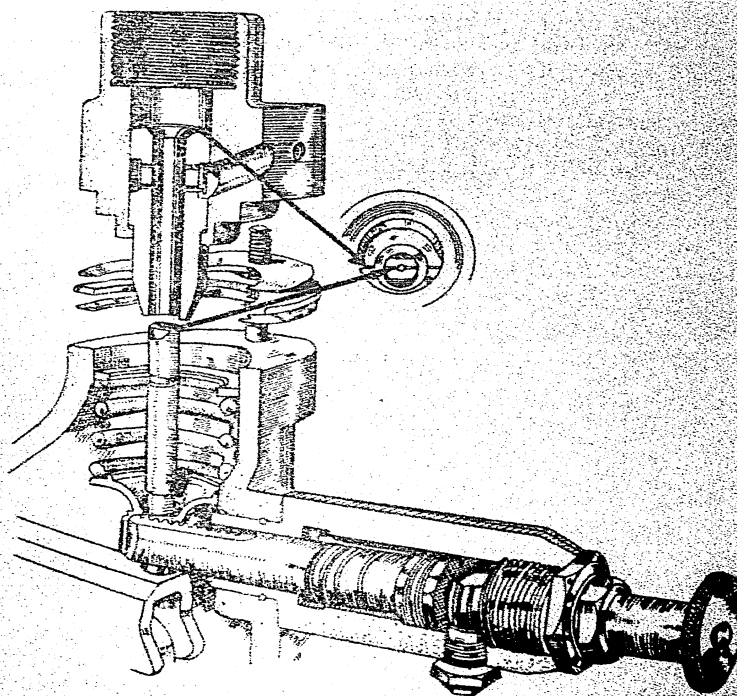

Fig. 33
- a) the mark on the plunger face should register with the plunger barrel face marking. The permissible divergence should be within 0.5—1.00 mm (see Fig. 33);